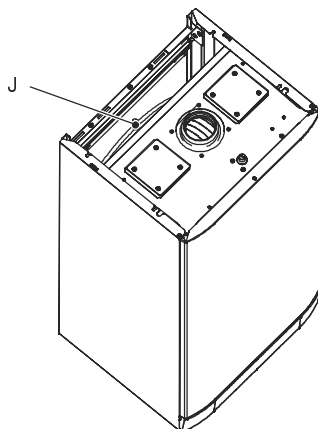

Fig. 13.1
- 2 Remove the protective cap *J* (Fig. 13.1) from the valve on the top of the expansion vessel and connect a suitable air pressure gauge.